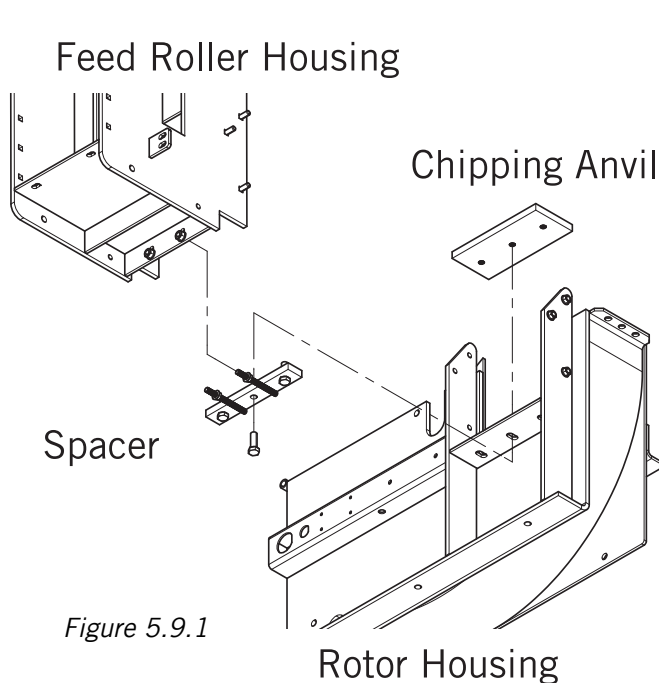

Figure 5.9.1
1. Loosen the three anvil bolts located underneath the feed roller housing (see Figure 5.9.1).